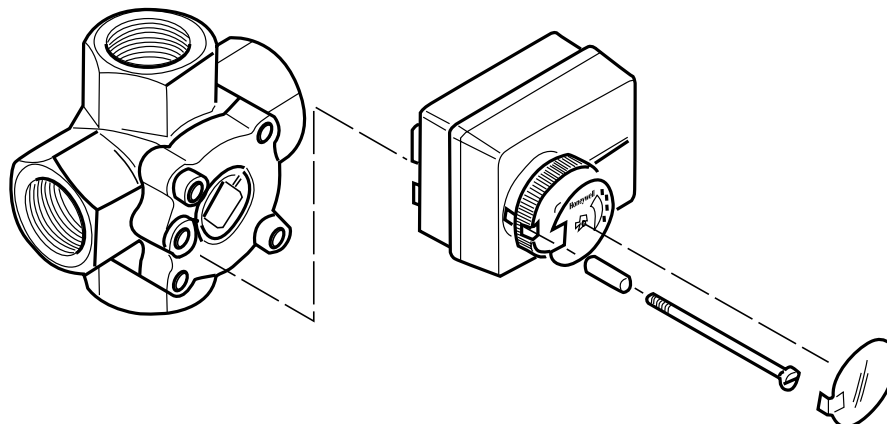

Fig. 4 M6063A basic wiring
5. Wire the actuator for operation. See Fig. 4 to 8.